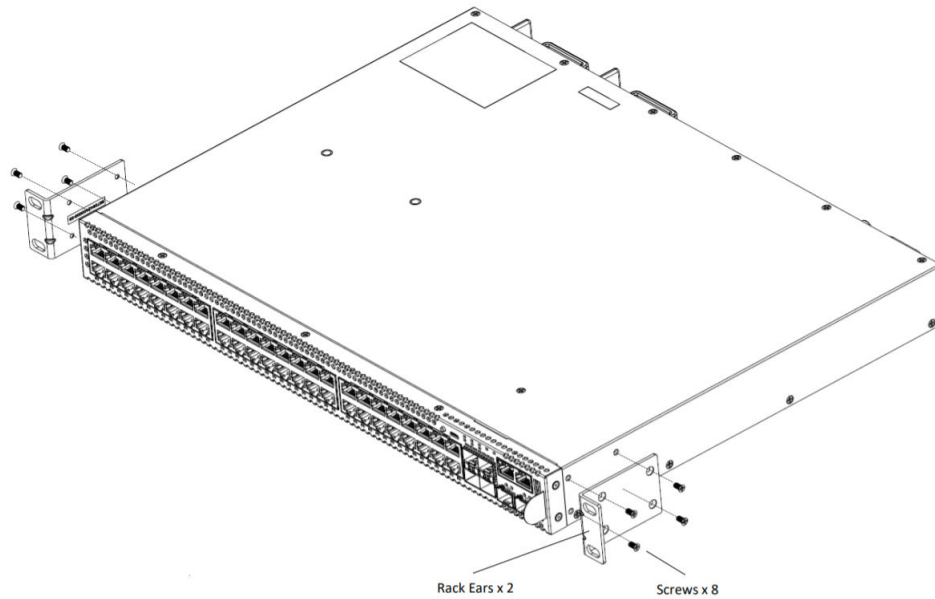

Figure 44: Front Mount: Attaching Short Mounting Brackets
- Figure 44 shows a front-mount configuration using a short mounting bracket.